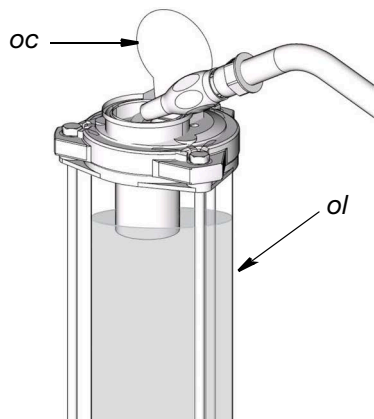

FIG. 5
2. Slowly add oil (*ol*) until reservoir is filled to capacity (FIG. 5). Take care to not fill reservoir too quickly and overflow the reservoir capacity.
3. Close oil fill cover (*oc*) to prevent contamination and spillage (FIG. 5).